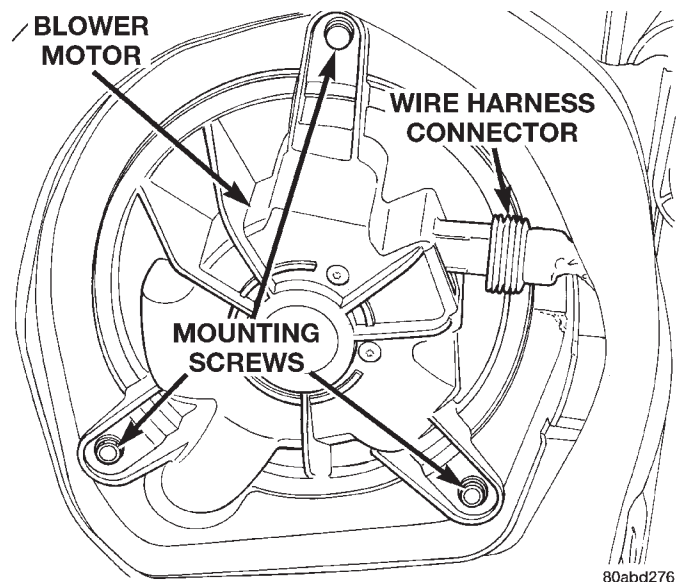

Fig. 37 Blower Motor Remove/Install
(3) Unplug the blower motor wire harness connector (Fig. 37).
(4) Remove the three screws that secure the blower motor and wheel assembly to the heater-A/C housing.
(5) Rotate and tilt the blower motor unit as needed for clearance to remove the blower motor and wheel from the heater-A/C housing.